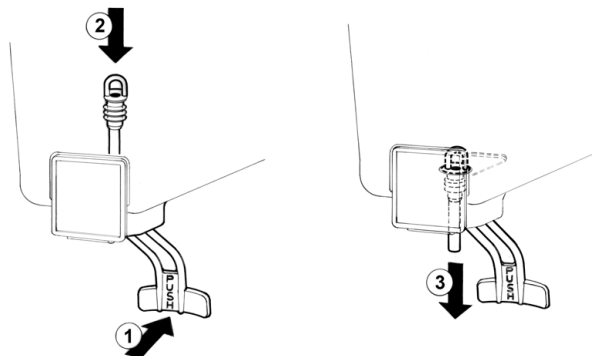

figure 5
2 Pinch tube faucet: push the dispensing handle (1) and insert the pinch tube into its vertical seat in the bowl bottom(2). Lightly pull the pinch tube end downwards til it is well arranged (3) (see figure 5).